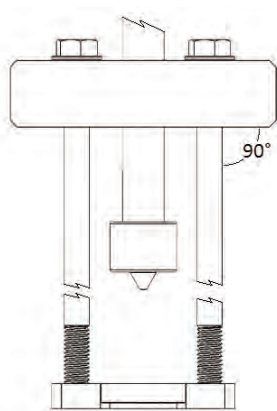

Fig. 1
1. Assemble bearing puller plate #3 with the two bolts #7 and washers #8 into the puller bar #5. Ensure the washers are located above the bar. Install center screw #4 with a little lube on threads. Install hardened tip #6. When correctly assembled, the tool should have the puller bar #5 aligned 90° to the bolts #7 as shown in the diagram. **Fig. 1**
1. Slide bearing race onto mainshaft with the chamfer toward trans. Use a press fit lube on race and shaft. **Fig. 1**